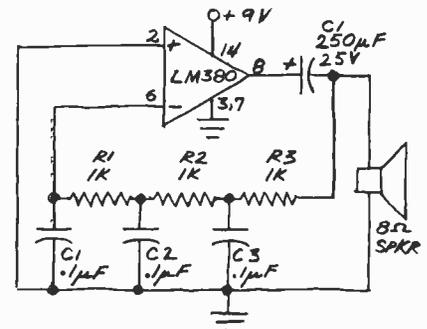

Fig. 4. LM380 phase-shift oscillator produces shrill tone.
**Phase-Shift Oscillator.** National Semiconductor's LM380 spec sheet shows how to use the chip as a simple phase-shift oscillator. The circuit, which is shown in Fig. 4, uses a simple RC network to produce an exceptionally shrill tone from a miniature speak-
er. With the parts values shown in Fig. 4, the circuit oscillates at a frequency of 3.6 kHz and drives a miniature 2½" speaker with plenty of ear-piercing volume for a burglar alarm or other attention-getting or warning device. The output waveform is a square wave with a width of 150µs, sloping rise and fall times, and a peak-to-peak amplitude of 4.2 volts (when powered by 9 volts).